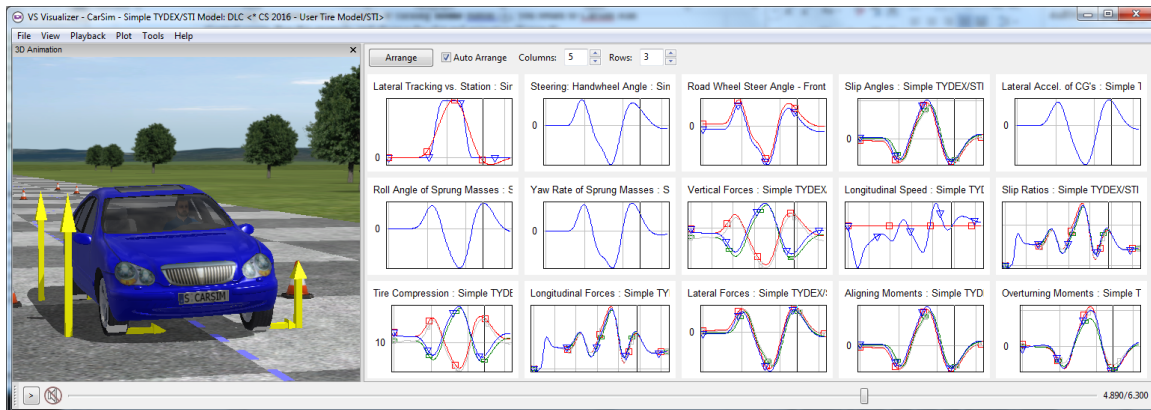

Figure 8. Simulation result with a simple linear tire model in animation and plot.
By clicking the **Back** button (5) three times or clicking **Home** button (6), you return to the **Run Control** screen. Run this example, and observe the plot and animation (Figure 8).